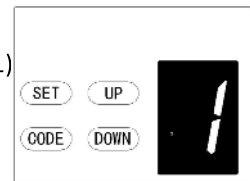

Fig. 11
- 13.1 Press and hold the "Set" button until "1" is displayed on the LED screen. (Fig.11)
- 13.6 "11" will be displayed to show door travel settings are complete. (Fig.11)
- 14.1 Press and hold the "Set" button until "1" is displayed on the LED screen (Fig.11)
- 15.1 Press and hold the "Set" button until "1" is displayed on the LED screen (Fig.11)
- 16.2 To enable the Auto Close function press and hold down the "Set" button until "1" is displayed on the LED screen. (Fig.11)
- 17.2 To enable the Auto Close Door Position function press and hold down the "Set" button until "1" is displayed on the LED screen. (Fig.11)
- 18.2 To change the LED Time Setting press and hold down the "Set" button until "1" is displayed on the LED screen. (Fig.11)
- 19.2 To change the Auto Reverse Height Setting press and hold down the "Set" button until "1" is displayed on the LED screen. (Fig.11)
- 20.2 To enable Partial Height function press and hold down the "Set" button until "1" is displayed on the LED screen. (Fig.11)
- 21.2 To enable this function press and hold down the "Set" button until "P" is displayed on the LED screen. (Fig.11)
- 22.2 To enable the Transmitter Quantity Setting press and hold down the “Set” button until “1” is displayed on the LED screen. (Fig.11)
- 23.3 To enable the Auto Reverse Ignore function press and hold down the “Set” button until “1” is displayed on the LED screen. (Fig.11)